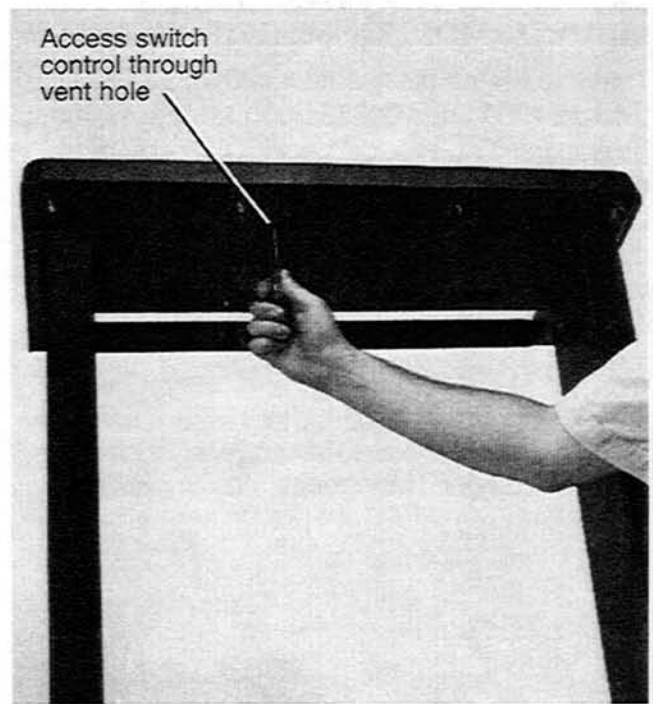

Figure 3-34. Accessing Magnetic Switch Control on DPU
2. Step to the front of the treadmill, then bend down so you can see inside the control panel. You should see a small white switch approximately 3 inches inside one of the ventilation holes (Figure 3-34).